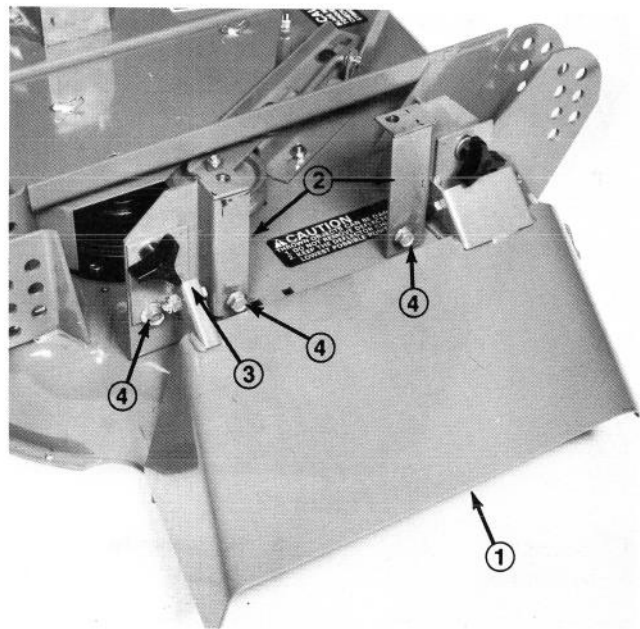

Figure 20
8. To remove blower assembly, disengage idler assembly, remove belt cover and lift belt off spindle pulley. Remove (2) knobs and washers securing blower to mounting brackets and remove blower and chute. Slide cutting unit grass deflector onto alignment bolts and secure to mounting brackets with knobs and washers. Install belt cover (Fig. 20).